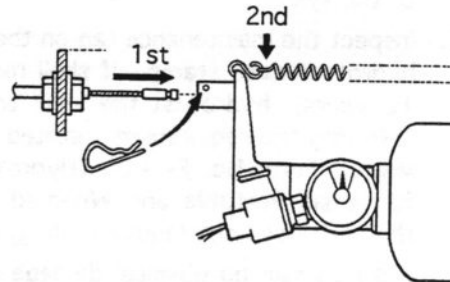

Figure 6
13. Connect cable coupling pin to cable coupling body with the cotter pin. Attach spring to valve handle with S-hook (Figure 6).